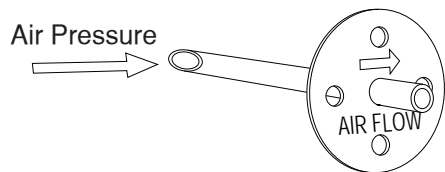
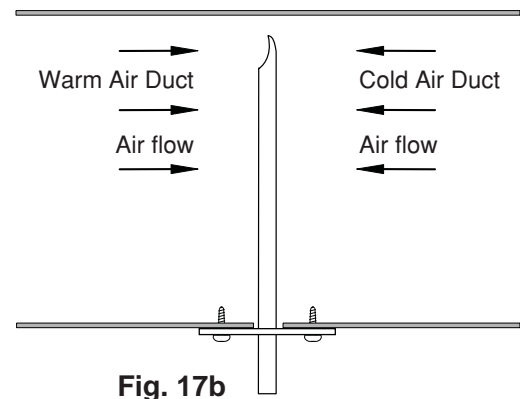

Fig. 17a
Fig. 17b
17.4 Insert the probe and fasten it's base to the duct using two sheet metal screws. The arrow visible on the probe flange indicates the air flow direction in the duct (i.e. the curved end of the probe has to face the air flow) Please see Fig. 17a and Fig. 17b.